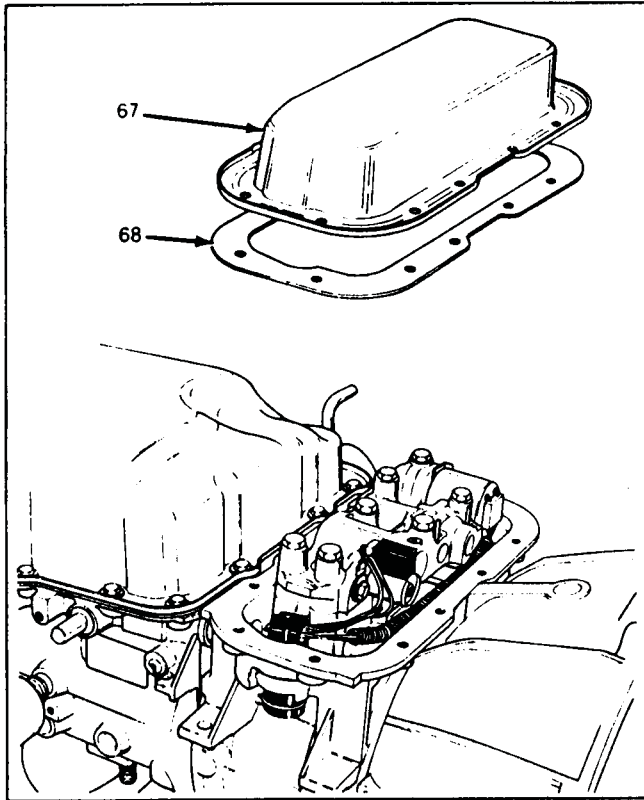

Figure 4
7. Remove adapter case bottom pan and the gasket (See Figure 4).